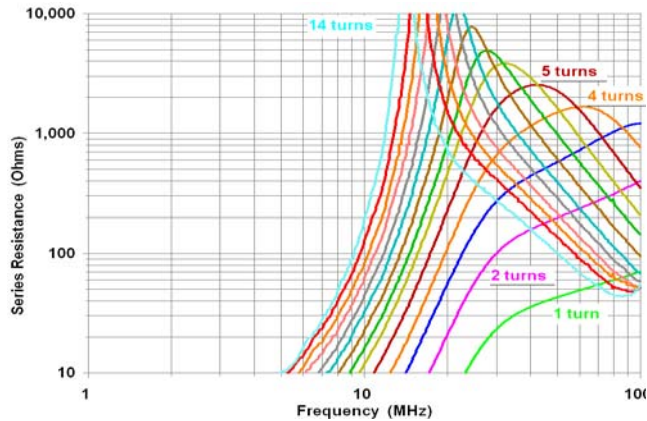

Fig 33 – R_s for chokes on 2.4" o.d. Fair-Rite #61
- ♦ **Inductive Ferrite Choke Balun** The line is wound around a toroidal ferrite core that has low loss at the frequency where the balun is used, so all (or nearly all) of the impedance is inductive. The line may be coax or it may be bifilar (parallel wires). Reisert's toroidal baluns are wound on a material like #61 that has low losses at HF (Fig 12, Fig 33). [Reisert also introduced the concept of a crossover winding style, whereby half of the choke was wound in one direction around the toroid, then crossed 180 degrees to the other side of the toroid and wound in the opposing direction. Sevick noted that he was unable to measure any effect of this technique. My measurements confirm Sevick's results.]